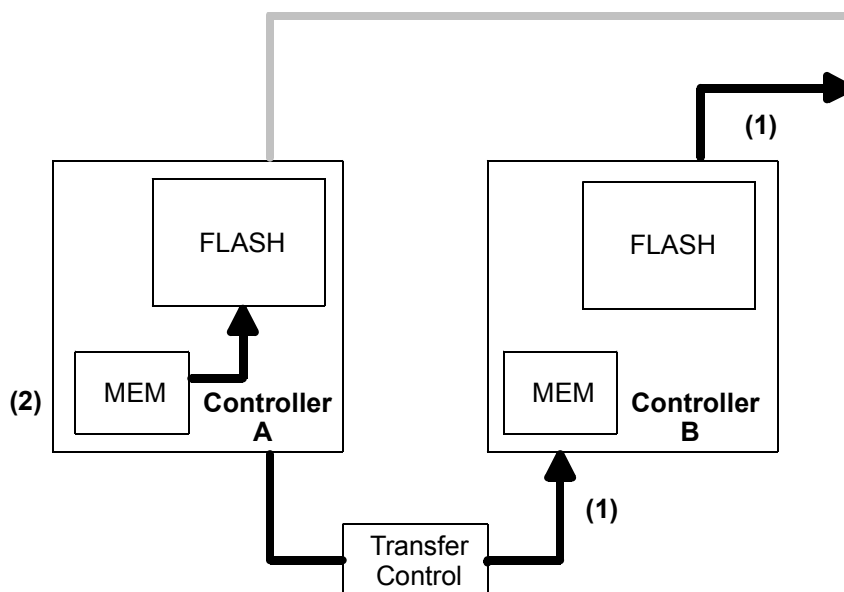

Figure 6-6 Re-Programming the FLASH on Controller A
The Wide Bank initiates a switch of Controllers, then executes the commands necessary to cause the firmware just downloaded to RAM to be programmed into the FLASH on the board that used to be active (Controller card A) (see Figure 6-6). During this programming, the traffic is carried by the secondary Controller card (B), which is now active. After the download is complete (approximately one minute), press Enter key to initiate a log-in to Controller card B.